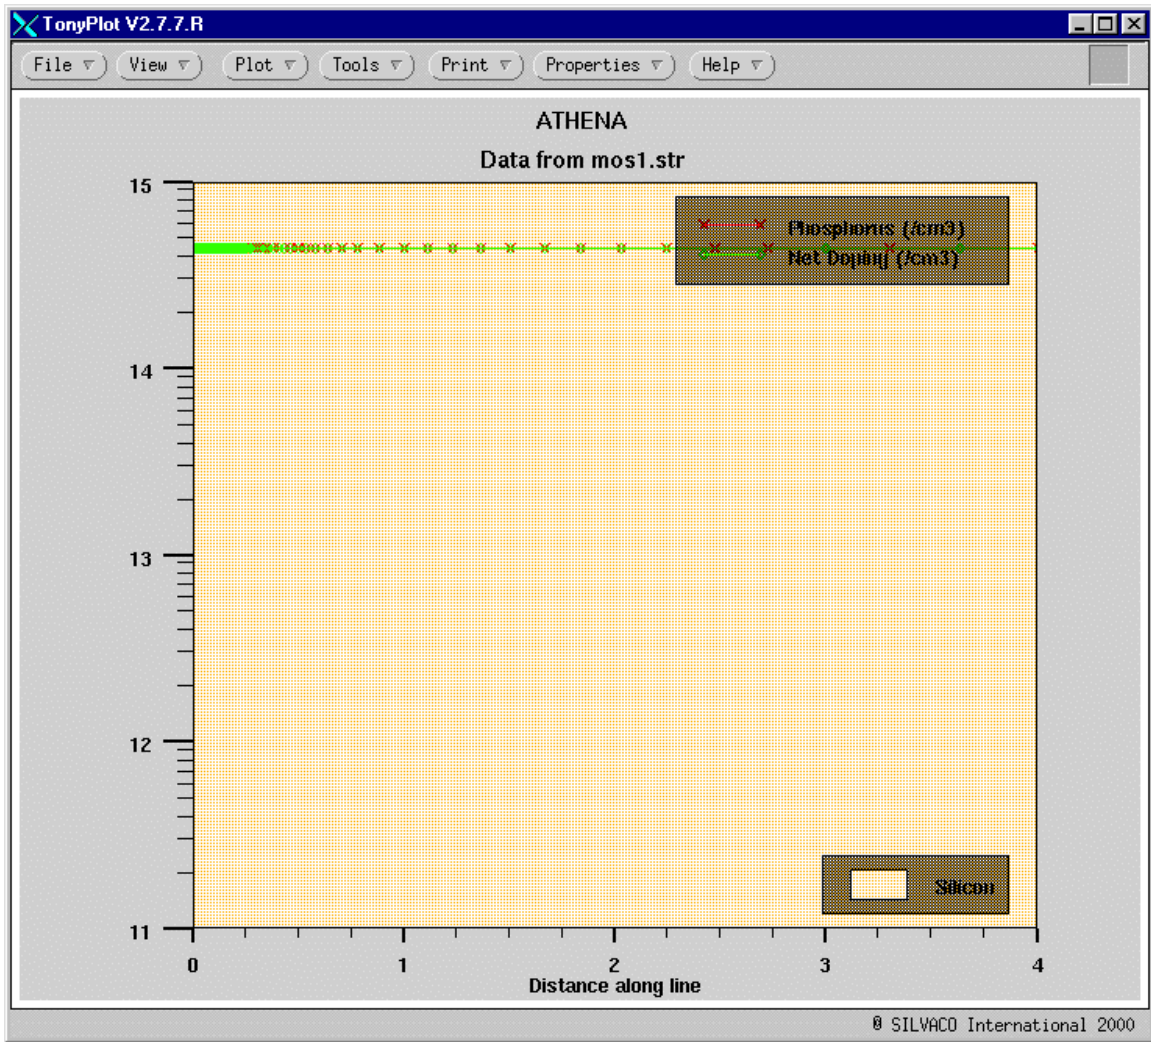

Figure 54: Initial Substrate.
The initial substrate is (100) Si doped with phosphorus to $4 \times 10^{14} \text{cm}^{-3}$ as can be seen in Figure 54. Since the doping is the same every where on the wafer, we can get by with a 1-D representation of the process.